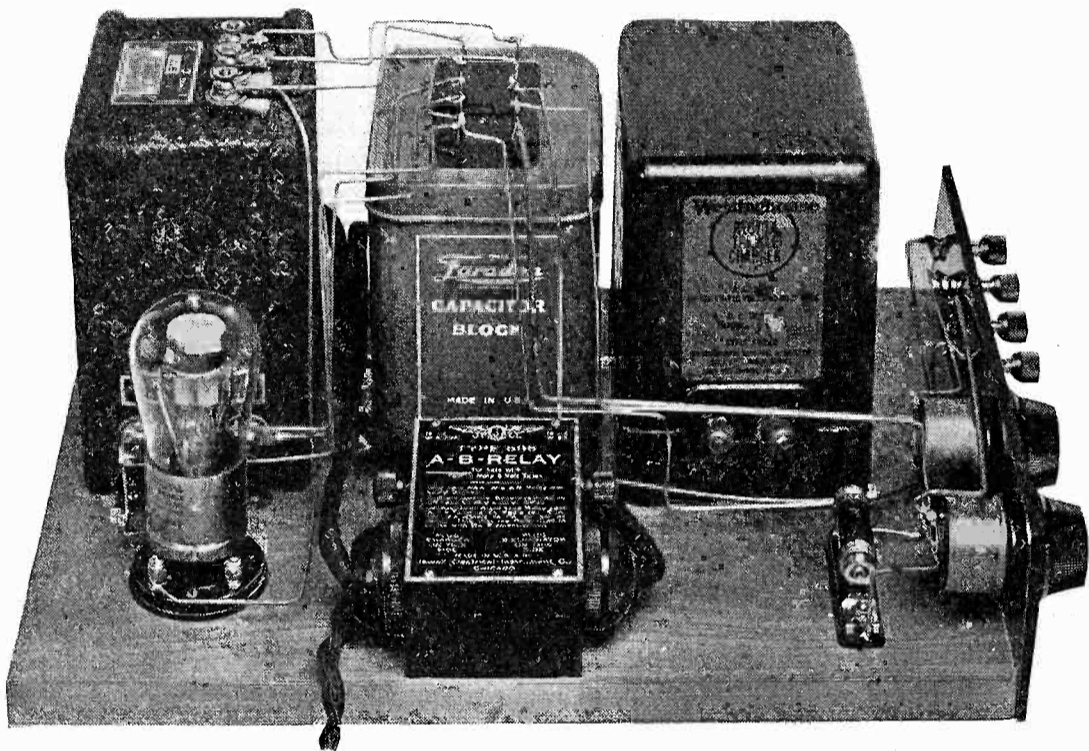

Fig. 5. Compact Power Plant for Quadrphase Receiver.
**T**O MAKE the receiver as simple to operate as possible, with the main filament switch on the panel controlling all auxiliary apparatus, a power plant equipped with automatic relay was assembled, and is shown in Fig. 5. This group of accessories consists of a compact *B* eliminator of the Raytheon type, a trickle charger, and a relay, all mounted on one base, so that the only additional accessory to the